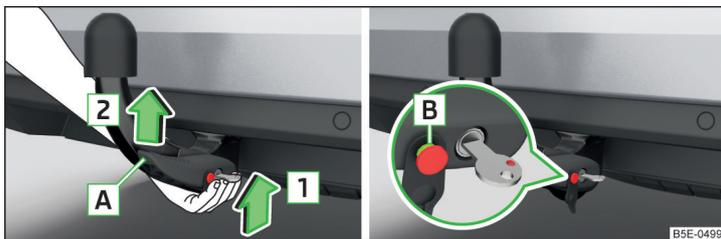

Fig. 291 Insert ball rod / trigger bolt in the extended state
- Grip the tow bar **from underneath** » Fig. 291 and insert into the mounting recess in arrow direction **1** until you hear it click into place » **!**.